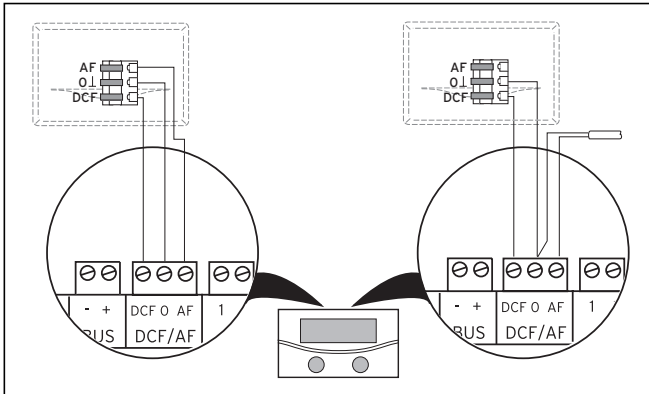

Fig. 6.12 Connecting the VRC DCF receiver
- Wire the DCF receiver as shown in Fig. 6.12: